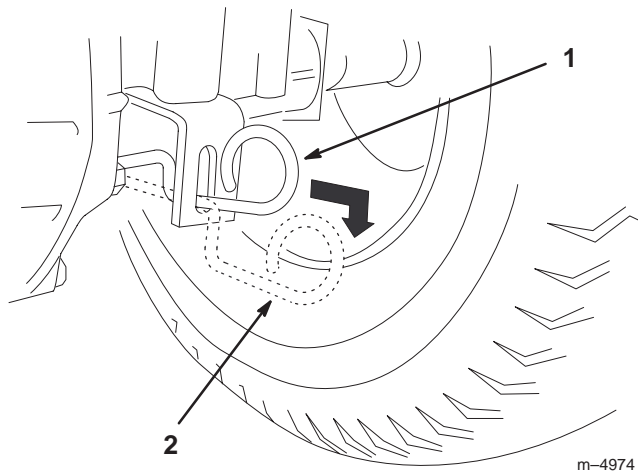

Figure 7
2. Set the drive control to the Push position (Fig. 7).
4. Place the drive control in the Operate position (Fig. 7).